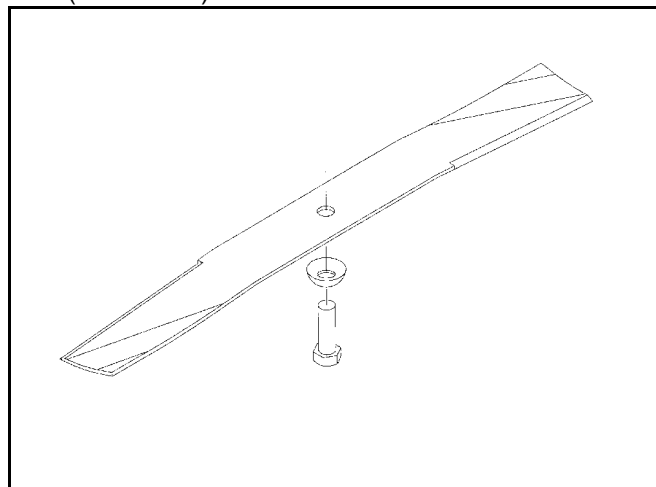

Figure 33
6. Reinstall sharp, balanced blade, washer, and blade bolt. Sail part of blade must point toward top of mower housing to ensure correct installation. Washer is curved and must be reinstalled with curve side down as shown in (Figure 33). Tighten blade bolt to 35-40 ft. lbs. (48-54 N·m).